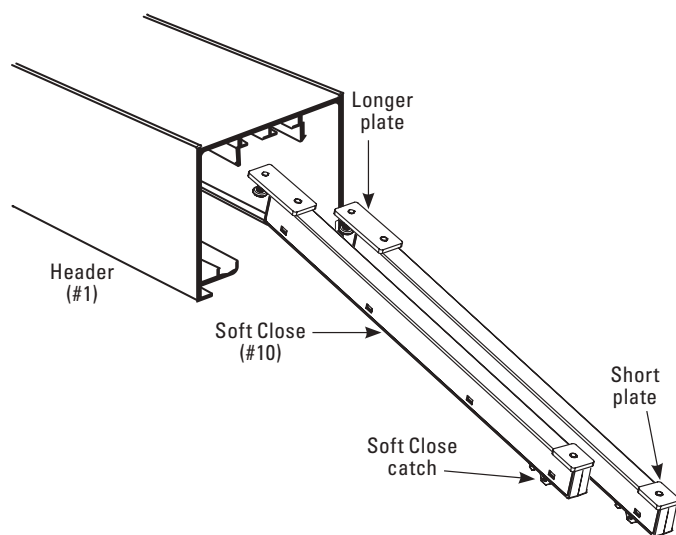

Figure 5a
4. Slide two Soft Close mechanisms into one end of the top of the Header (See **Figure 5a**). The end of each Soft Close with the "catch" should be positioned closest to the end of the Header.